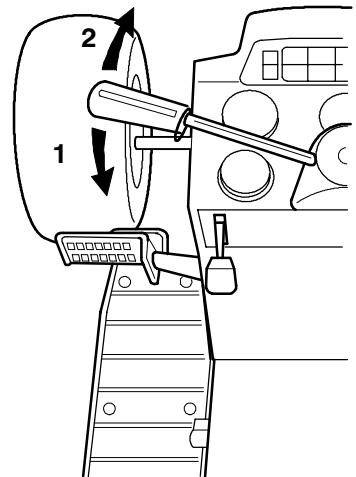

Figure 23
The attachment power lift (Fig. 23) is used to raise and lower attachments.
2. Pull the lift lever in the "UP" direction to raise the attachment lift (Fig. 23). This will lift and hold the snowblower in the up, or raised position.
2. Push the lift lever in the "DOWN" direction to lower the attachment lift (Fig. 23). This will lower the snowblower.